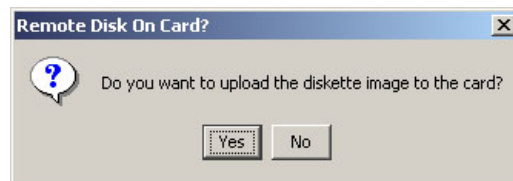

Figure 4-24 BladeCenter - Upload remote file
4. For diskette images (that is, not ISO files), you are prompted as shown in Figure 4-24.